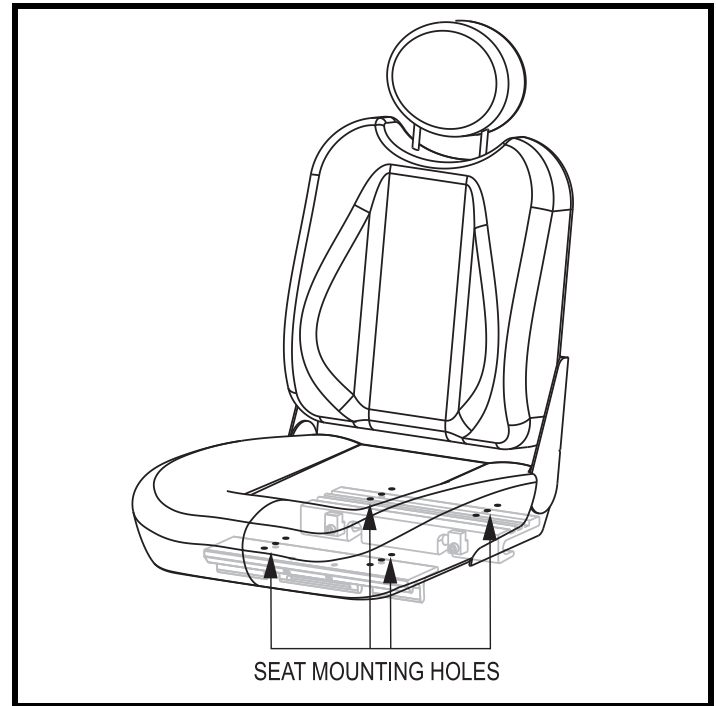

Figure 15. Seat Position Adjustment
4. Reposition the extrusions on a different set of mounting holes. You must move both extrusions the same number of holes either forward or backward. **See figure 15.**